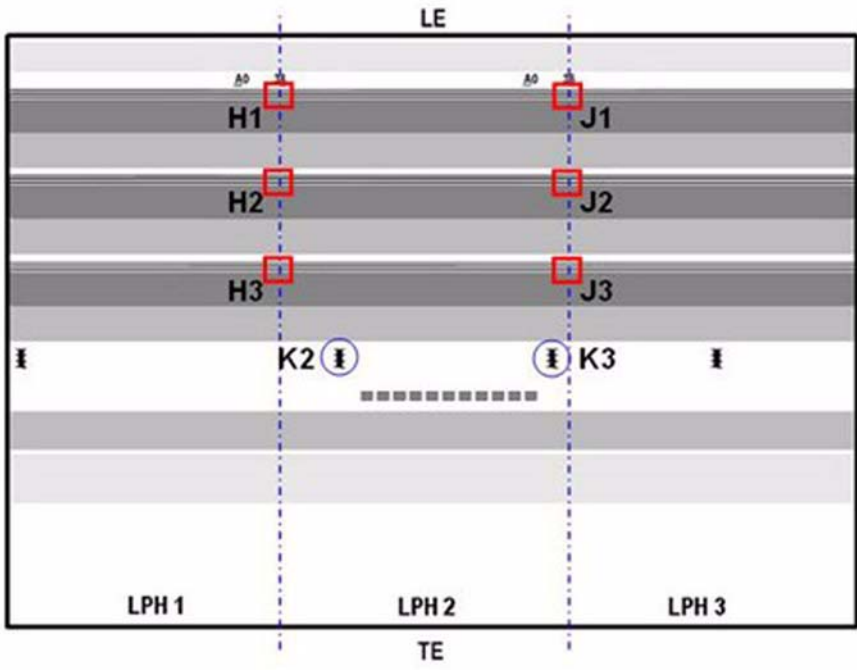

Figure 7 LPH Timing Check Locations
1. Check the alignment of the thin horizontal lines at **J1**, **J2**, and **J3** on the test pattern (refer to Figure 7). If the LED Print Heads are not correctly timed, the thin horizontal lines will be offset from each other.